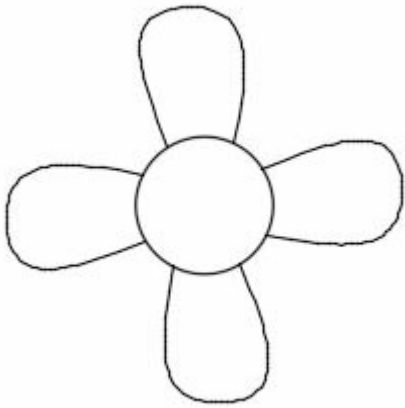

Figure-38. Sketch for symbol
- Using the tools in the **Draw** panel, create sketch for the desired symbol; refer to Figure-38.